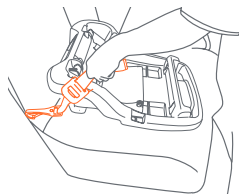

Fig. 49-2
5. Locate the **LATCH** anchors in the vehicle seat (Fig. 48-2). Once located, snap the Safety Seat **LATCH** connectors onto the steel rod. Listen for the click and check that both connectors are firmly attached to the anchor rods by pulling outward on the connectors (Fig. 49-2).
with your knee or hand on the Base while pulling upward on each webbing end. The webbing will automatically lock in place. **Check that there is no slack in the webbing on both sides of the base and that the base is tightly installed** (Fig. 49-2 and 49-3).